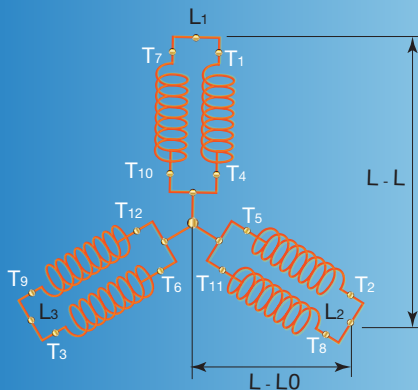

Figure 1B
6.2 PARALLEL LOW WYE - As illustrated in **Figure 1B** each pair of coils are in parallel with their ends all connected at the neutral. This is now referred to as Low Wye because the voltage is lower. This voltage is more common in commercial and residential applications. Note in **Figure 1B** the lower L to L and L to L0 connections.